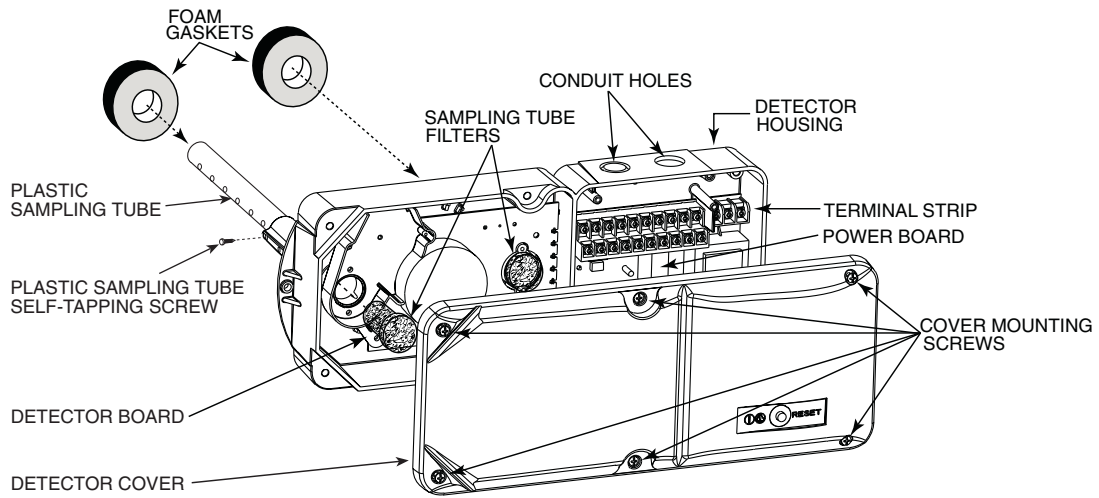

Fig. 1 — Smoke Detector
Tables 1A and B list the accessory package contents. Figure 1 shows the smoke detector.
4. Place foam gaskets over each sampling tube on smoke detector. (See Fig. 1.)
17. Return to Electrical/Compressor section and insert sampling tube filters into both sampling tube holders. (See Fig. 1.)
6. Place foam gaskets over each sampling tube on smoke detector. See Fig. 1.
10. Secure sampling tube in inlet closest to the smoke detector electronics using the no. 8 self-tapping screw provided. See Fig. 1 for an example on how to connect a sampling tube. Be sure to connect the sampling tube to the middle hole. Insert plug into the end of the sampling tube.
12. Insert sampling tube filters into both sampling tube holders. See Fig. 1.